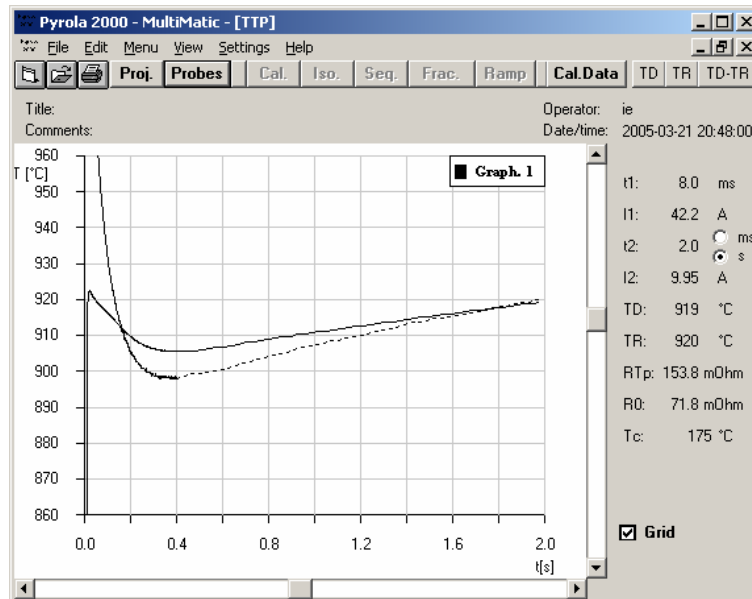

Figure I-6. A second pyrolysis temperature is found by decreasing I1 and I2 with 1.5 and 0.5 A, respectively.
11. A second pyrolysis temperature can be easily found by decreasing I1 with 1.5 A and I2 by 0.5 A. The result is shown in Figure I-6.